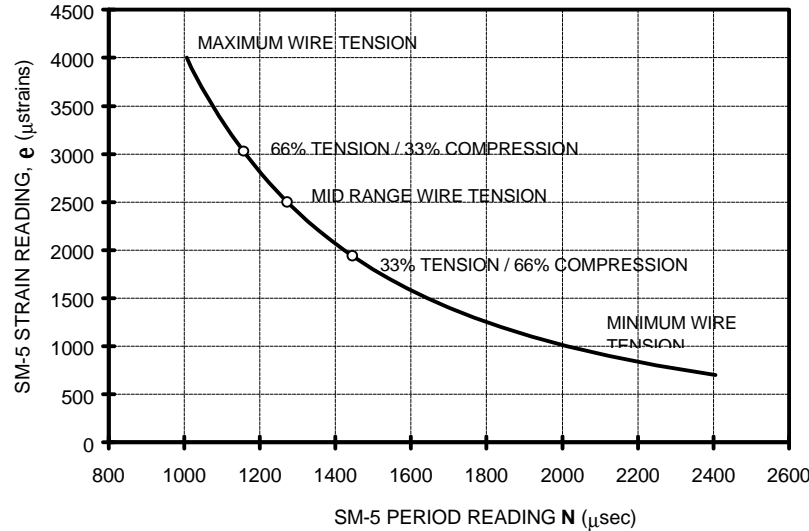
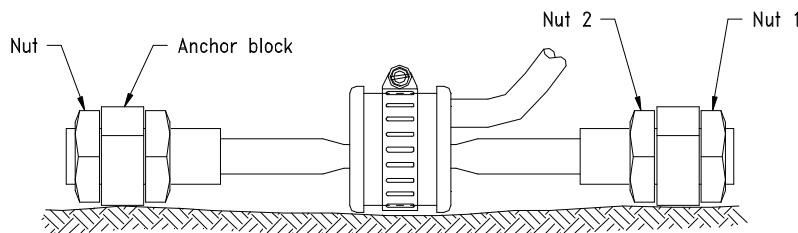

Figure 2: SM-5B strain range vs period
Figure 5: SM-5B installation procedure
Figure 2 is a plot showing a typical strain range of the SM-5B gage with the NORMAL reading shown plotted against the LINEAR reading.
In all cases, the gage should not be operated or checked at values lying outside the range shown in Figure 2.
The initial uninstalled **N** reading of the pretensioned gages should lie within 1,200 to 1,300 microseconds, which corresponds approximately to the mid-range of the gage. At the time of installation, the initial setting can be changed to suit the magnitude and direction of the expected change in strain (see Figure 2).
3. Referring to Figure 5, turn nut 1 to tension the wire to the pre-determined value. In the NORMAL mode, the reading should be between 1,000 and 2,000 μ seconds. The actual initial reading will depend upon whether or not tensile or compressive strains are to be measured; refer to Figure 2. When in doubt, set the initial reading to mid-range.